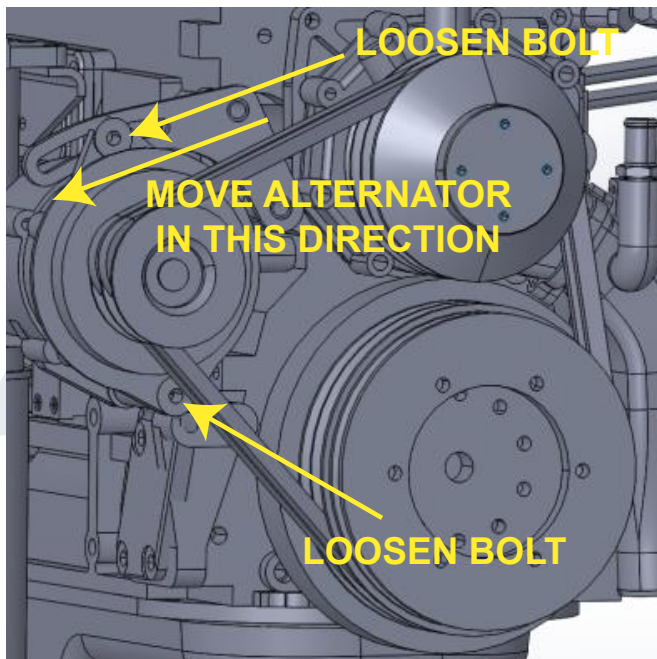

FIGURE 33 - DIESEL ENGINE DRIVE BELT
- Loosen the bolts that hold the alternator in position. The alternator has a slotted bracket and tension nuts that will release the tension on the drive belt. See FIGURE 33.
Rotate the drive belt tensioner in the counter-clockwise direction and re-install the drive belt. Make a visual inspection that the drive belt centerline is in alignment with the other pulleys. See FIGURE 33.